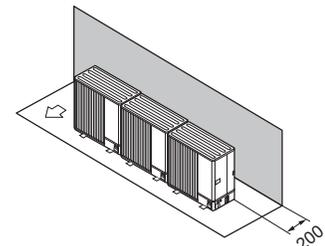

Fig. 2-15
- (1) Obstruction or closed surface at rear only (Fig. 2-15)